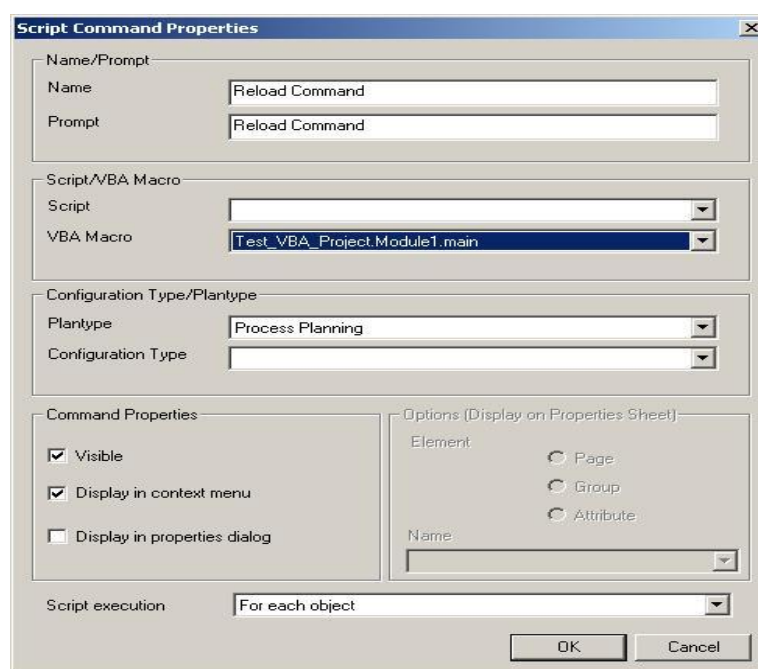

Figure 41: Script Command Properties
- 3) Create a script command "Reload Command" to assign the `ReloadSelectedComponent` script and then assign the script command to plantype "Process Planning". *Please refer to the Figure 41 and Creating Script Commands.*